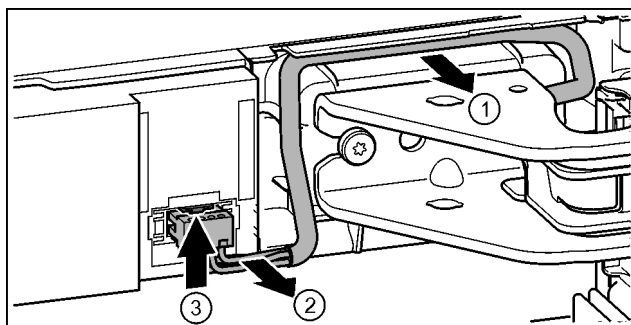

Fig. 18
- Carefully remove the cable over the bearing bracket from the guide. Fig. 18 (1)
- Carefully pull the cable strands out of the channel. Fig. 18 (2)
- Press the tab upwards and carefully remove the plug. Fig. 18 (3)